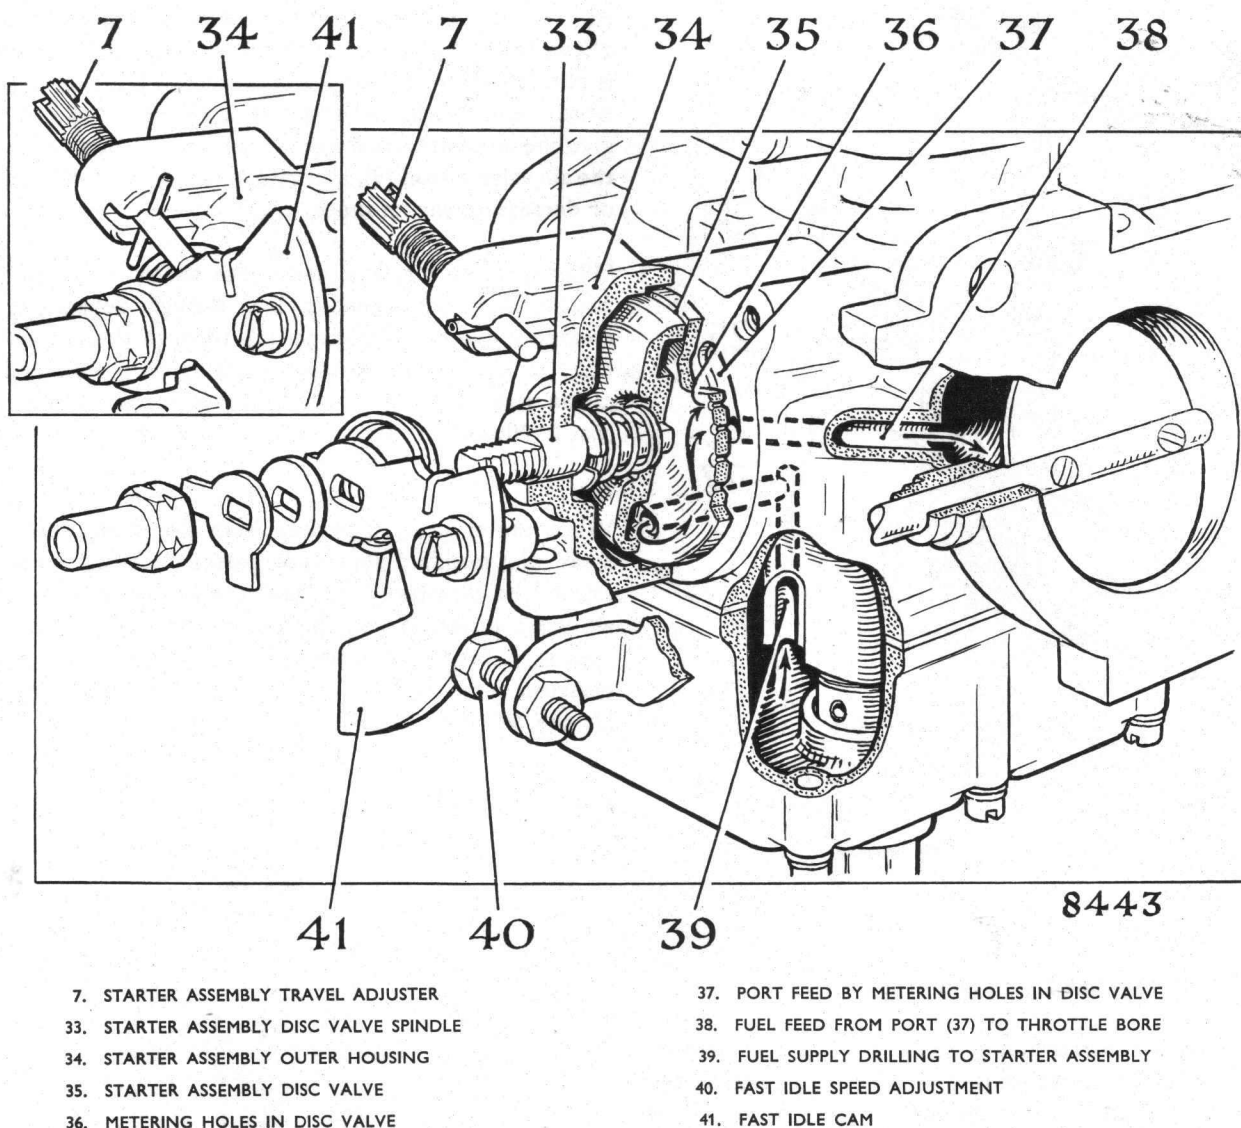

Fig. 3. Starting operation—inset shows normal position of stop (7)
The two position stop (7) is used to allow either three, or four, metering holes to supply the extra starting fuel controlled by the disc valve. For most conditions only three metering holes are needed and the stop (7) is put in the position shown in Fig. 3 inset. For very cold conditions around -23°C . (-10°F .) the stop (7) is put in its alternative position shown in Fig. 3 to allow all four metering holes to be used.